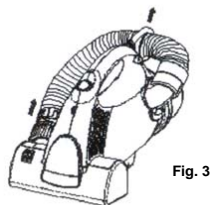

Fig. 3
- Remove the flexible hose from the brush chamber exhaust port and take the hose out from the hose holder. (Fig. 3)